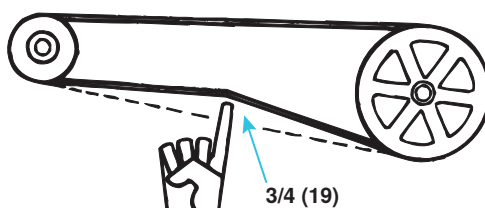

Figure 36. Checking Belt Tension
- Proper belt tension is important to the long life of the belt and motor. A loose belt will cause wear and slippage. Too much tension will cause excessive motor and blower bearing wear. Check belt tension as shown in Figure 36.
- If the belt cannot be depressed 3/4 inches (19 mm), as shown in Figure 36, adjust the belt tension as follows: